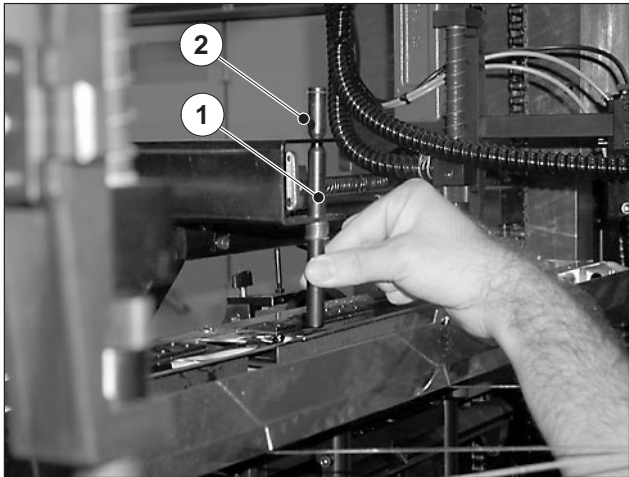

Fig. 51
16. Remove the locking device from the borehole on the actuating bar (Fig. 51/2).